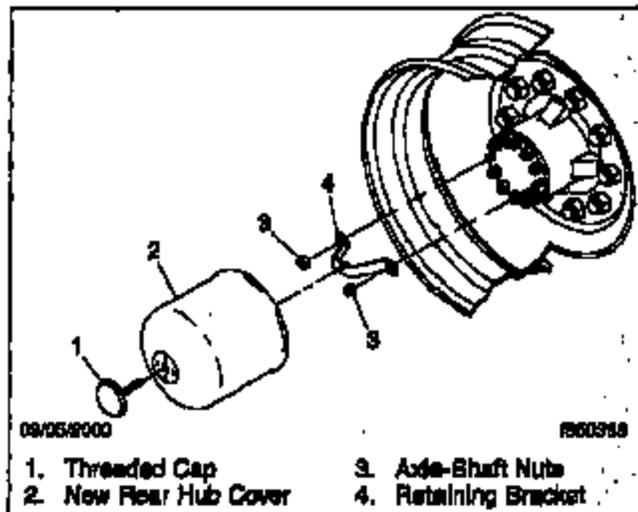

Fig. 2, New-Style Rear Hub Cover Installation
5. Using the two axle-shaft nuts removed earlier, install the new bracket from the kit onto the two axle-shaft studs. See Fig. 2.
6. Install the new hub cover using the threaded cap. See Fig. 2.